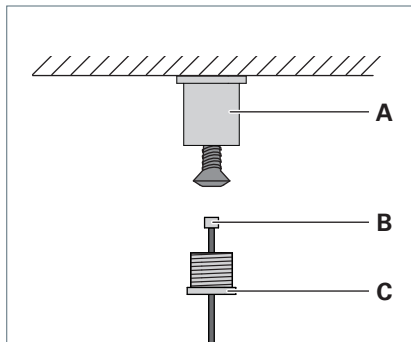

Fig. 2: Mounting ceiling fixture.
- Screw the sleeve **A** to the ceiling using a suitable screw, see Fig. 2.